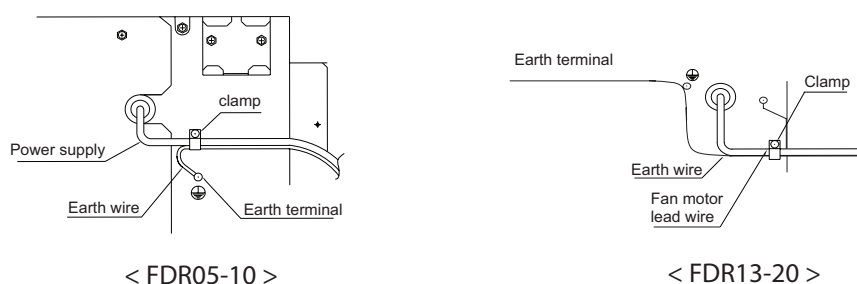

Fig.15
- Clamp the earth and power supply wires together to provide support and relieve tension at the earth terminal (see Fig.15 on page 9).